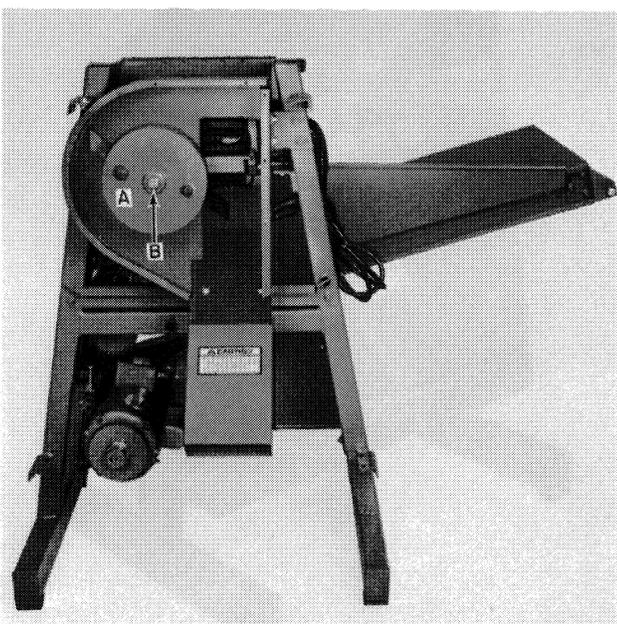

FIGURE 4
5. Remove the cutter knife flywheel, A, Figure 4, by removing the $\frac{1}{2}$ " bolt at B. It may be necessary to hit this flywheel with a soft hammer to unseat it from its splined shaft.